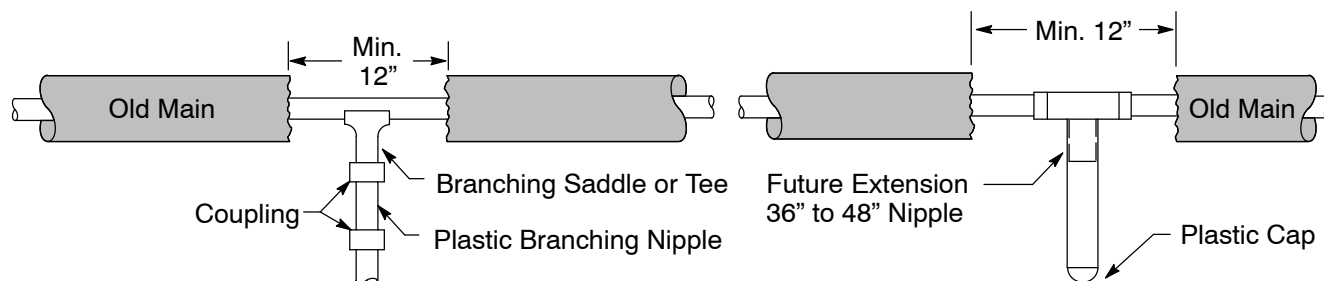
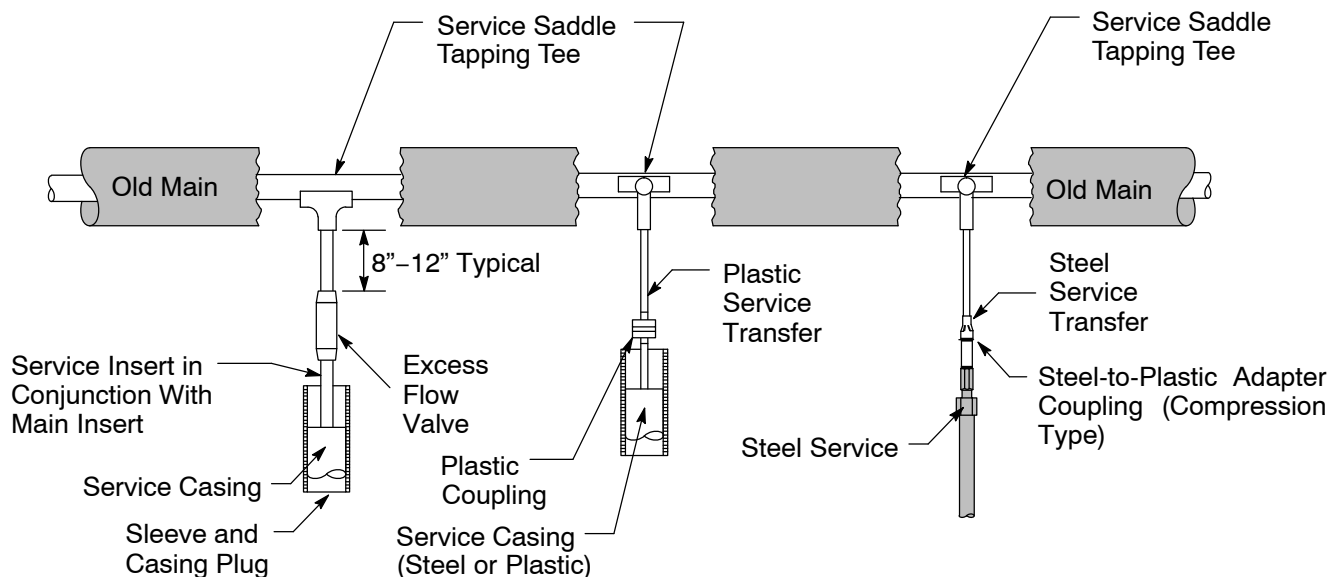

Figure 4
Figure 6
- e. Provide for future laterals by installing stubs or opening up the casing at appropriate locations (see Figure 4, "Laterals Off Plastic Main Insert" and Figure 6, "Service Connections Off Plastic Main Insert").